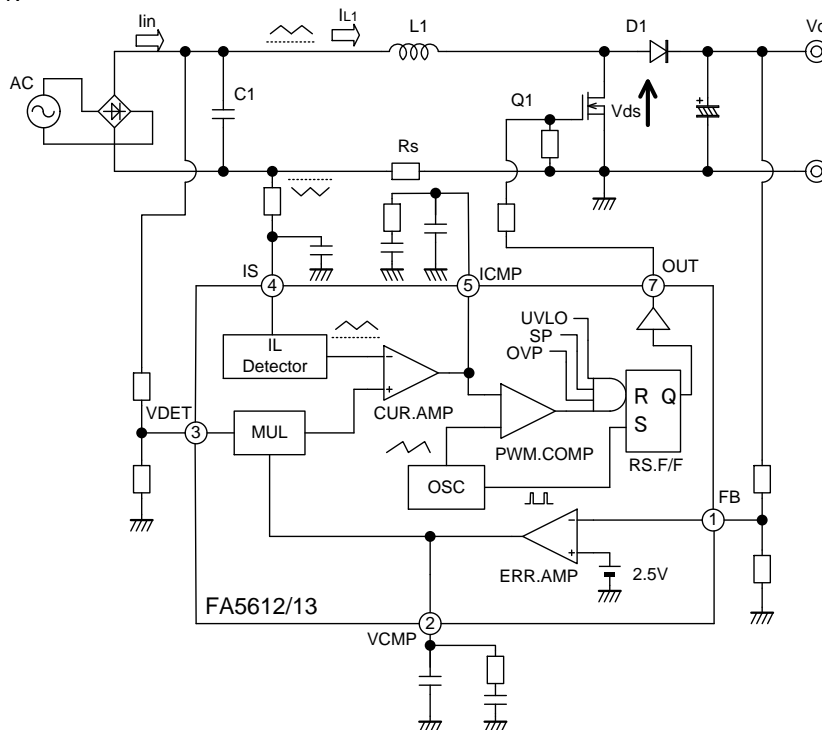

Fig.1 Block diagram of operating circuit
The operations, (1) Switching and (2) Power factor collection, are explained as below with the simplified circuit diagram shown in Fig.1.